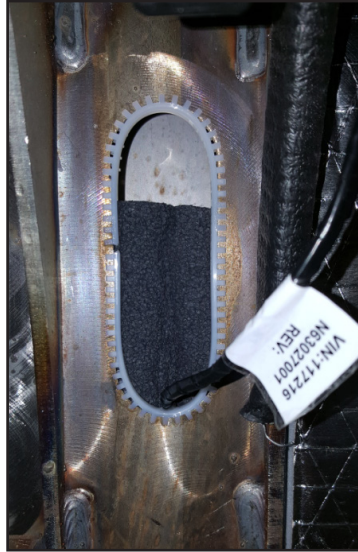

Figure 6 - Installation of Large Coil Foam Piece
- 1.10. When installing, ensure that the foam fully expands inside the structure tube to block the air passage. The foam piece is oversized and will hold in place on all 4 surfaces (see Figure 6).
- 1.11. Ensure that at least 50% of the foam is hidden inside the tube (see Figure 6).